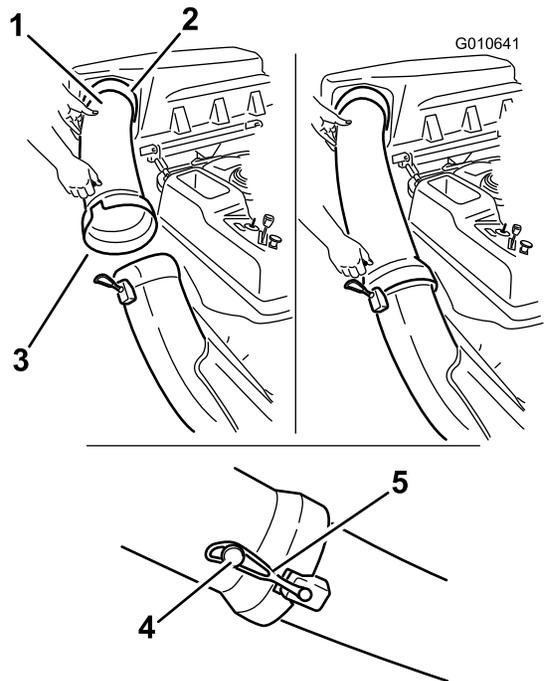

Figure 26
1. Slide the curved end of the discharge tube into the opening in the bagger top (Figure 26).
2. Slide the flared end of the discharge tube over the end of the chute. Move the rubber retaining strap on the chute snaps over the peg on the discharge tube to secure it (Figure 26).